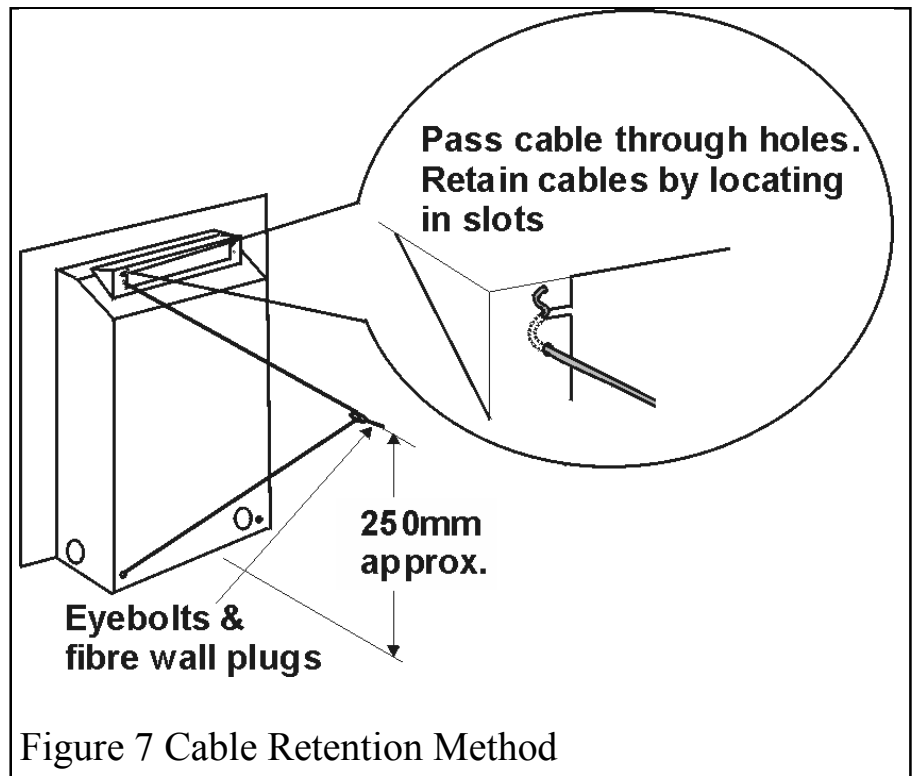

Figure 7 Cable Retention Method
- Cables and eyebolts are supplied for the retention of the appliance. Ensure that the internal fireplace components are sufficiently sound to take the eyebolts and wall plugs. These should be fitted as shown in figure 7 using the wall plugs and a No.10 drill. Use only the fibre wall plugs supplied (or similar). **Never use plastic plugs instead of the fibre plugs supplied.**